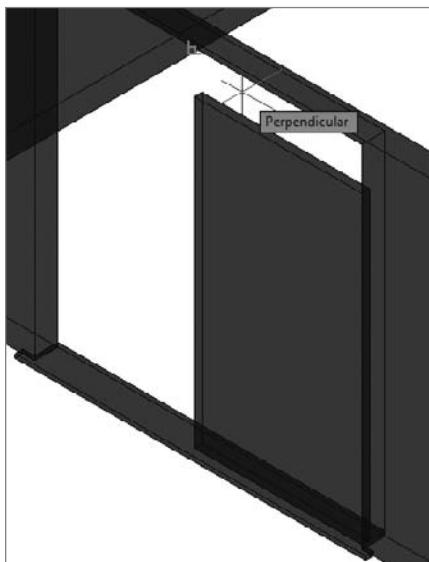

FIGURE 16.50 Using the Perpendicular osnap to choose the door height
3. Create a box from the right edge of the patio opening on top of the threshold that is 3'-7" (1092 mm) wide, 2" (51 mm) thick. Specify the height of the door using the Perpendicular osnap as shown in Figure 16.50 to pick one of the upper door frame edges.